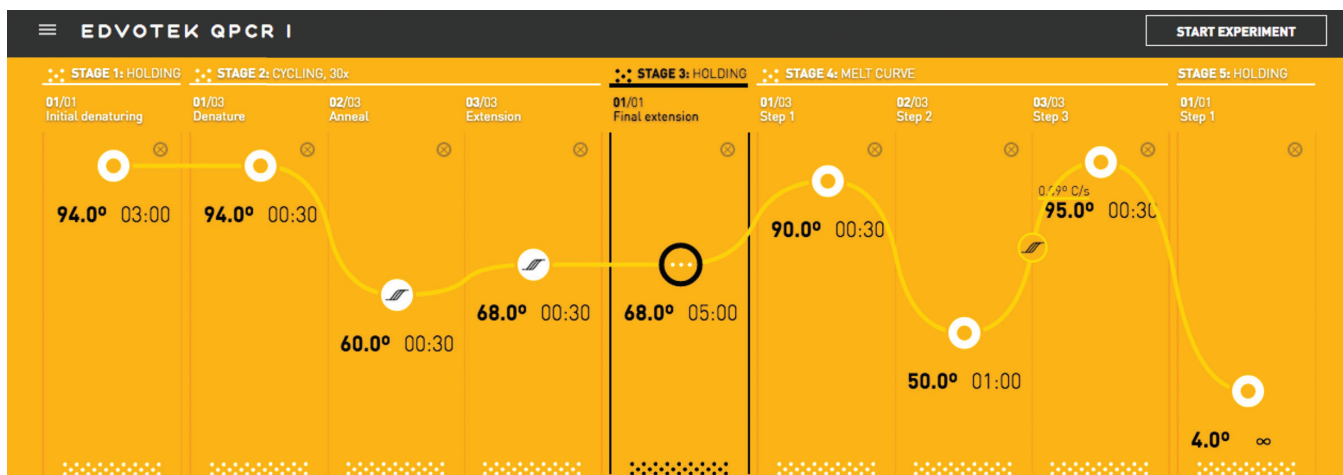

Figure 14: The 380 qPCR Program on the Open QPCR user interface.
2. **SELECT** the correct qPCR experiment. **NAVIGATE** to the "Experiments" list on the right portion of the screen and **CLICK ON** "qPCR I (EVT 380)". If the orange and white protocol screen does not appear (Figure 14) **CLICK ON** the menu bar in the upper left hand corner (☰) and **SELECT** "View Protocol".